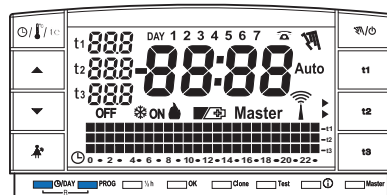

fig. 27
- To clear unwanted data, press keys **⏸/DAY** and **PROG** (approximately 2 seconds). All sections that are on will appear on the display (general autotest) (fig. 27/28).